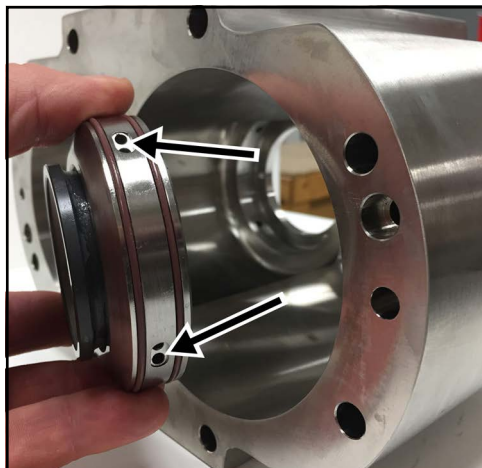

Figure 79 - Install seal carrier in body
11. Install the seal carrier into the body, making sure to line up the flush holes in the seal carrier with the flush holes in the body as shown in Figure 79.